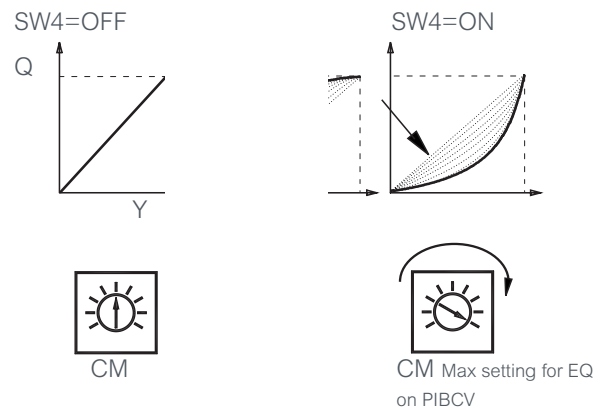

Fig. 3
- **SW4: LIN/EQ% – Flow curve adaptation (Fig. 3):**